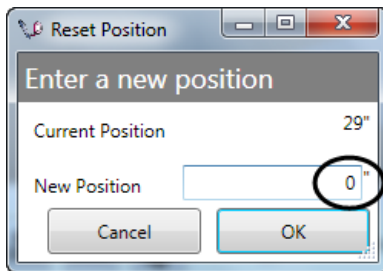

Figure 138
3. In the **New Position** field, enter the *correct Position* value and click **OK** (Figure 138).